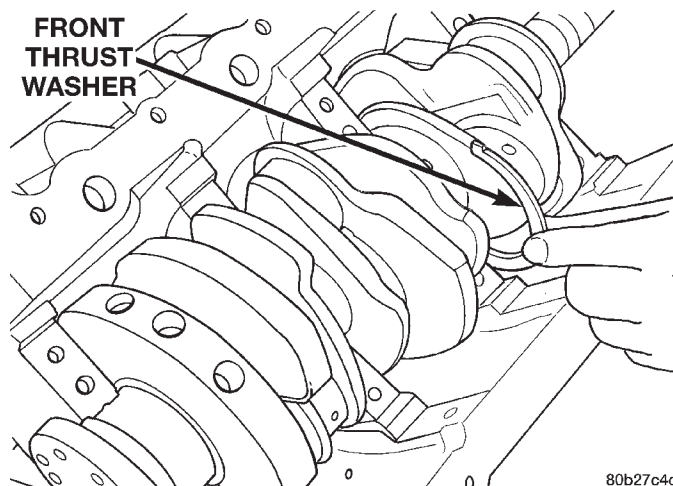

Fig. 46 Thrust Washer Installation
- (1) Install Crankshaft.
- (2) Move crankshaft forward to limit of travel. Lubricate and install the front thrust washer by rolling the washer onto the machined shelf between the No. 2 upper main bulk head and crankshaft thrust surface (Fig. 46).
- (3) Move crankshaft rearward to limit of travel. Lubricate and install the rear thrust washer by rolling the washer onto the machined shelf between the No. 2 upper main bulk head and crankshaft thrust surface.
- (4) Lubricate lower main bearings with clean engine oil.